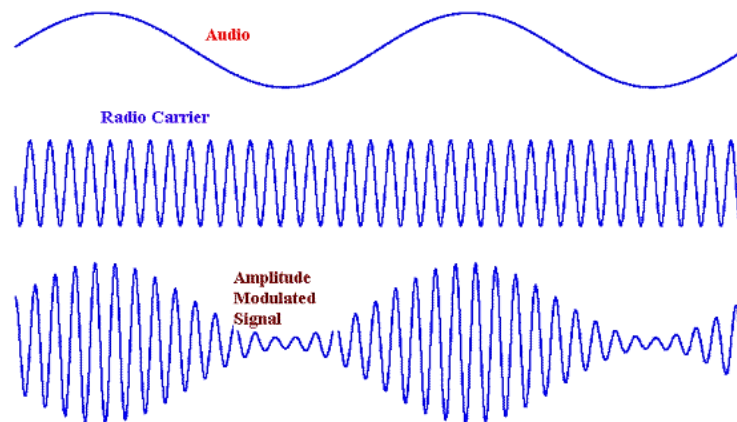

Figure 1: Amplitude modulation
1. To analyze and understand different system design perspectives of an amplitude modulation (AM) receiver. (1)
Amplitude modulation (AM) refers to modifying the amplitude of a carrier signal to convey information in a wireless system. For example, the amplitude of a radio carrier is varied in Figure 1 according to the audio signal, which gives the amplitude-modulated signal. Generally, AM signals are transmitted from a broadcast station, and an AM receiver system is required to listen to that particular station. (2)
- h) Observe and test the response of the detection circuit shown in Figure 1. Connect the circuit shown in Figure 7 at the output of the active filter circuit shown in Figure 8. Observe the detected signal in an oscilloscope. Plot the input and output waveform in an oscilloscope. Add your simulated results plot below and save your simulation filed as “Proj-A-2h.ms14”.